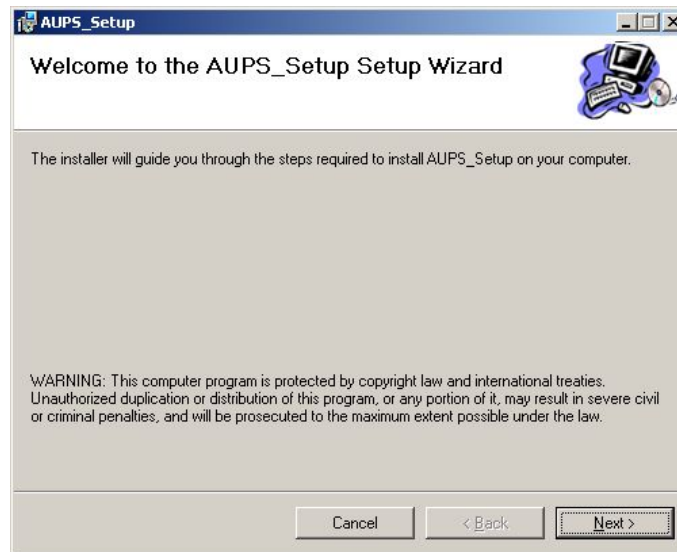

Figure 7-1: Welcome Screen
Step 2: A welcome screen appears (**Figure 7-1**). To continue the installation process click **NEXT**.